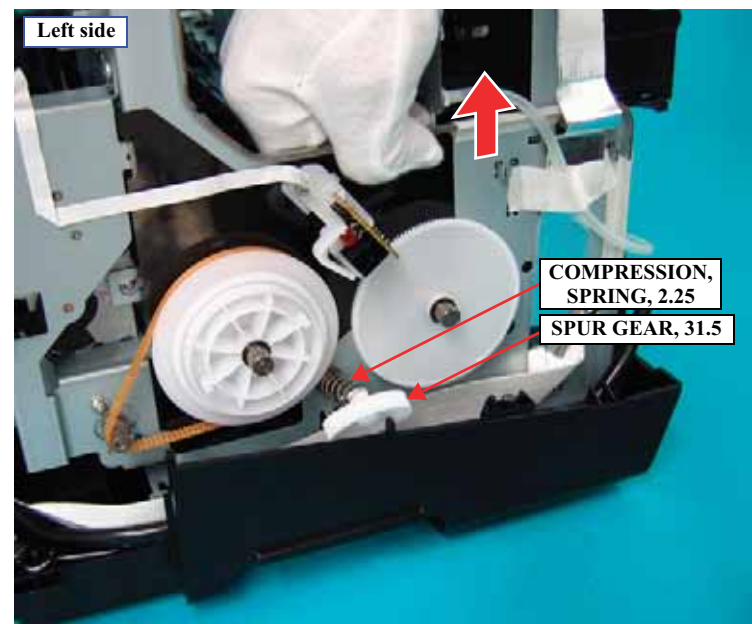

Figure 4-100. Removing the SUPUR GEAR, 31.5 (2)
5. Lift up the left side of the main frame, and remove the SPUR GEAR, 31.5 and the COMPRESSION, SPRING, 2.25 from the main frame. *See Figure 4-100.*